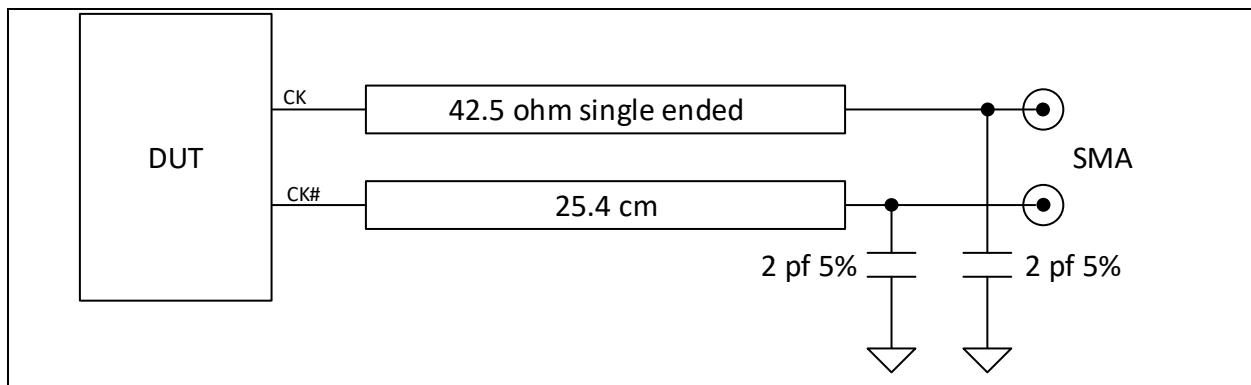

Figure 22. AC Test Load as per DB2000QL Specifications
1. Measured into AC test load as per Figure 22.
1. Measured into Figure 22 AC test load.